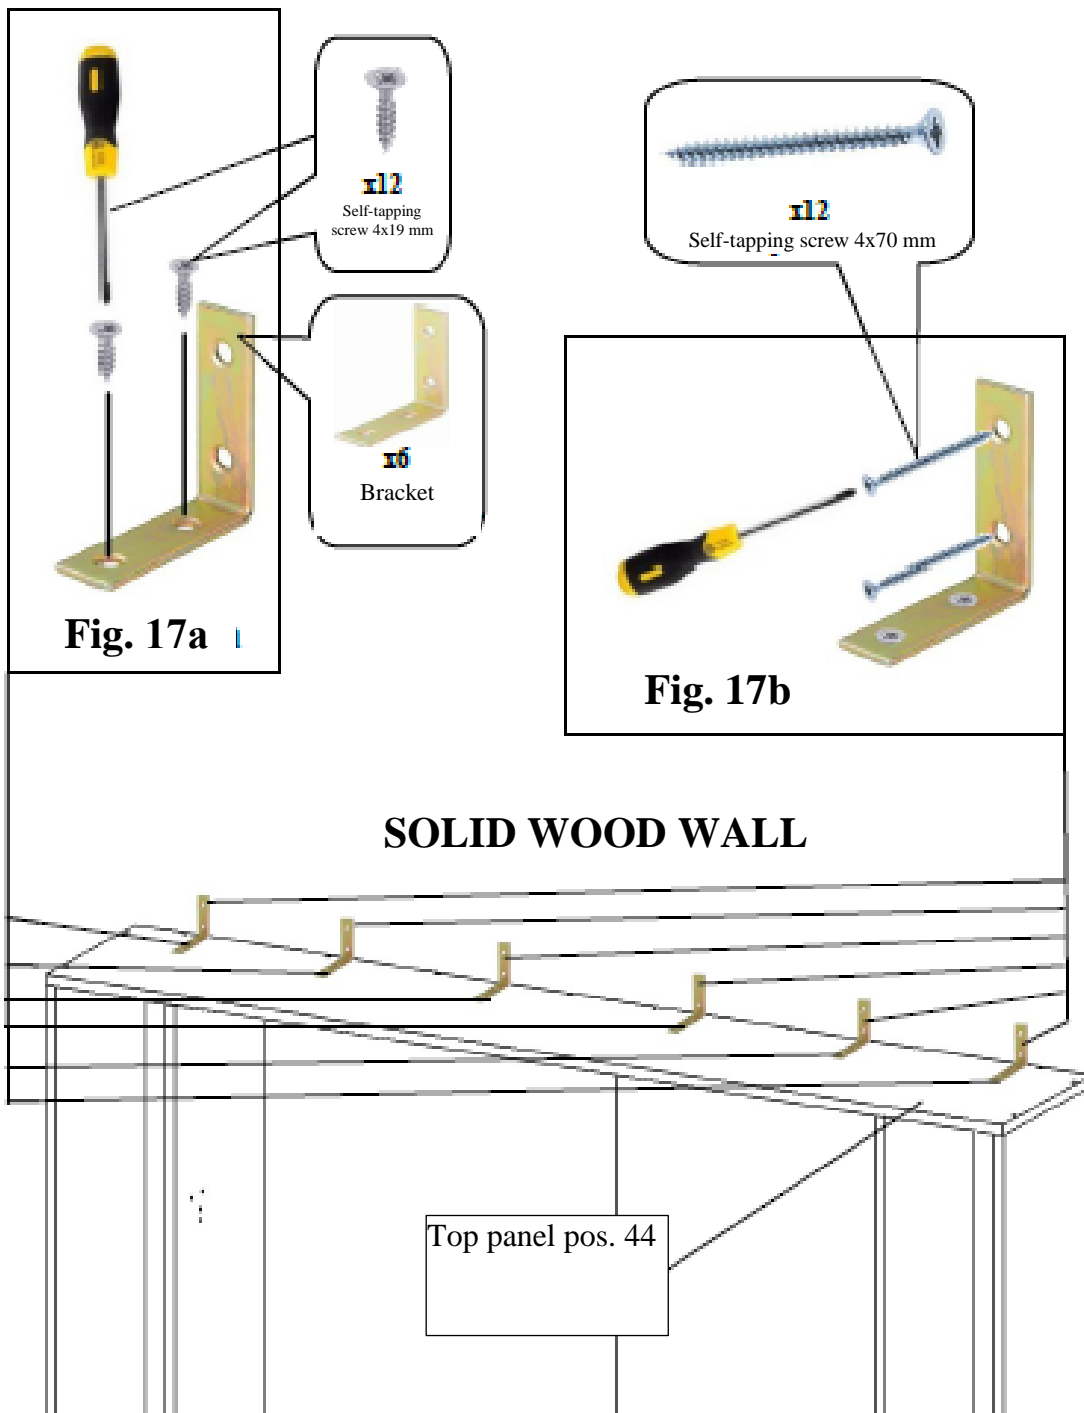

Fig. 17
Step 17. Take Phillips screwdriver PZ2 . Arrange the angle brackets as shown in **Figure 17**. Screw the self-tapping screws 4x19 in the top panel (pos. 44) using the screwdriver PZ2 as shown in **Figure 17a**. Screw the self-tapping screws 4x70 in the wall (PROVIDED IT IS A SOLID WOOD